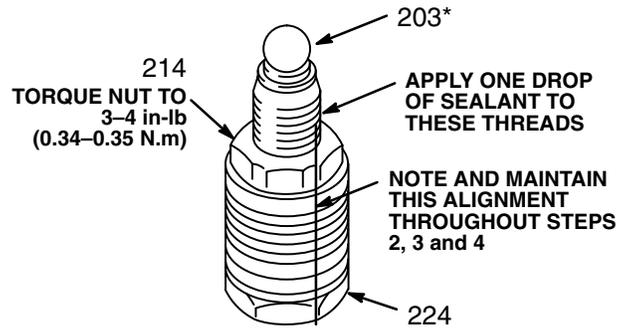

Fig 19-2
2. Tighten the packing retaining nut (214) against the gland (213) and torque to 3-4 in-lb (0.34 – 0.35 N.m). See Fig 19-2.
**NOTE:** NOTE THE ALIGNMENT of the piston (224) to the nut (214). Maintain this alignment throughout Steps 2, 3 and 4.
3. Apply 1 drop only of sealant, supplied with the repair kit, to the piston valve threads. Place the small ball (203\*) on the valve. See Fig 19-2. Hand tighten the valve into the rod (223) just until the nut contacts the rod. Place the flats of the displacement rod in a vise.